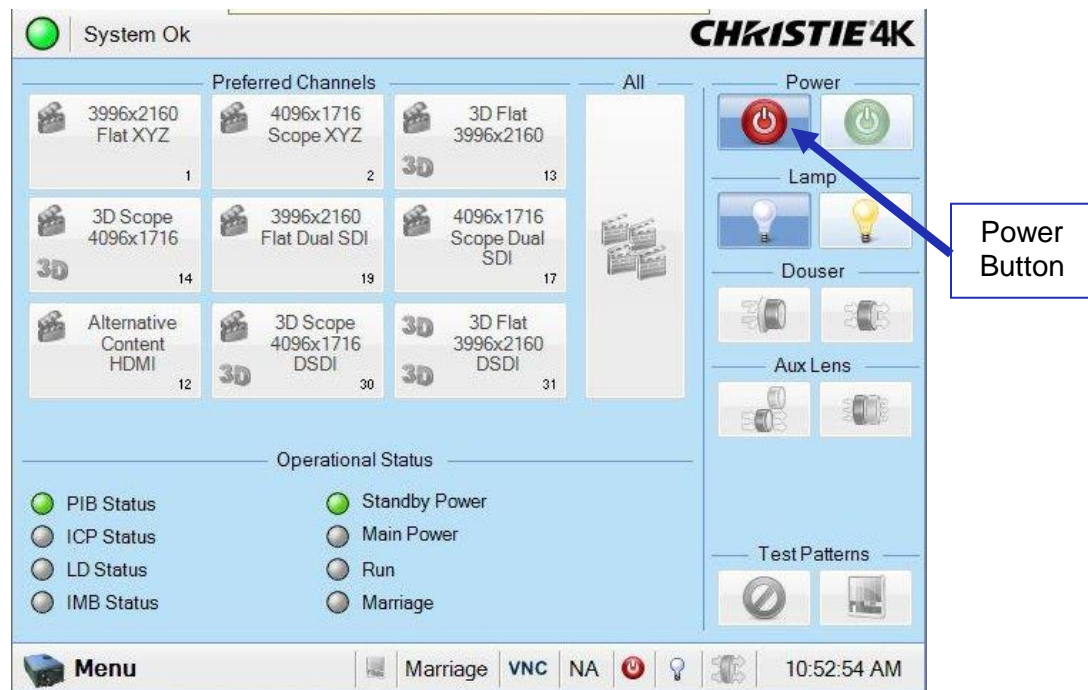

Figure 81: Power Button
- Turn the projector on by pressing the green Power button on the touch panel controller (Figure 81). After about two minutes, the projector will be fully powered on.